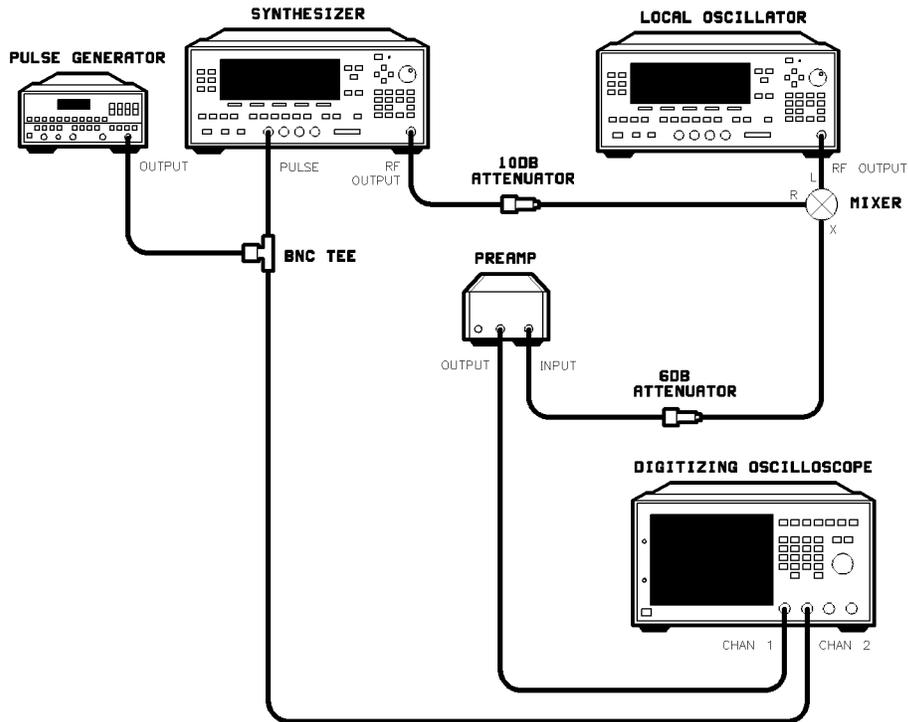
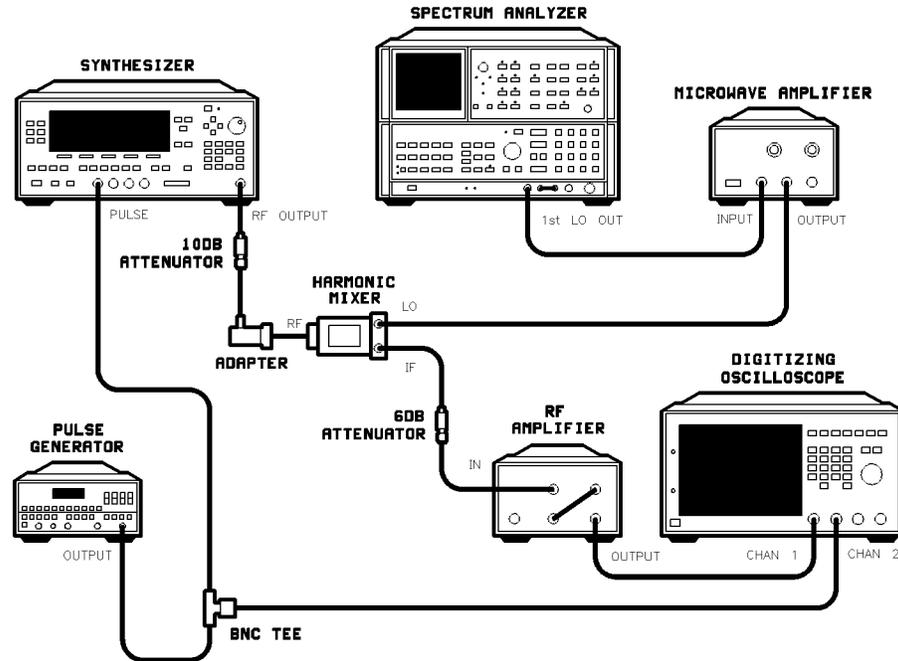

Figure 2-18. Pulse Performance Test Setup < 20 GHz
Figure 2-20. Pulse Performance Test Setup >20 GHz
1. Turn on the equipment shown in Figure 2-18 and Figure 2-20. Preset the instruments and let them warm up for at least one hour.
2. Connect the equipment as shown in Figure 2-18.
25. Connect the equipment as shown in Figure 2-20 using the HP 11970K Mixer.